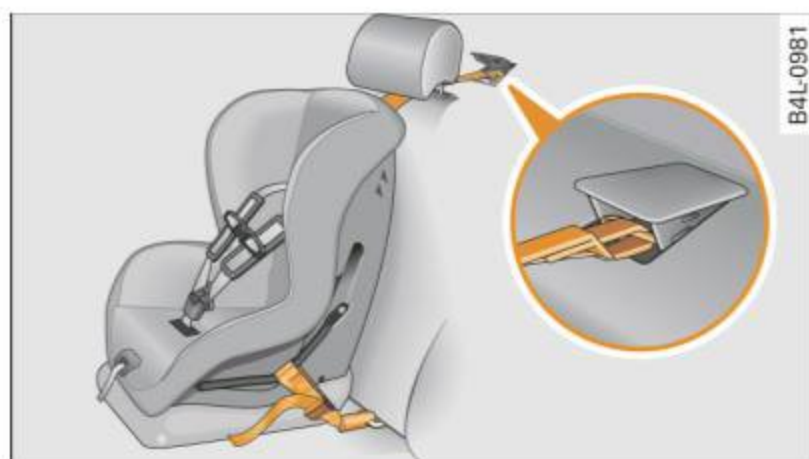

Fig. 196 Tether strap: proper routing and mounting
- Guide the upper tether strap **under** the rear head restraint ⇒ fig. 196 (raise the head restraint if necessary).